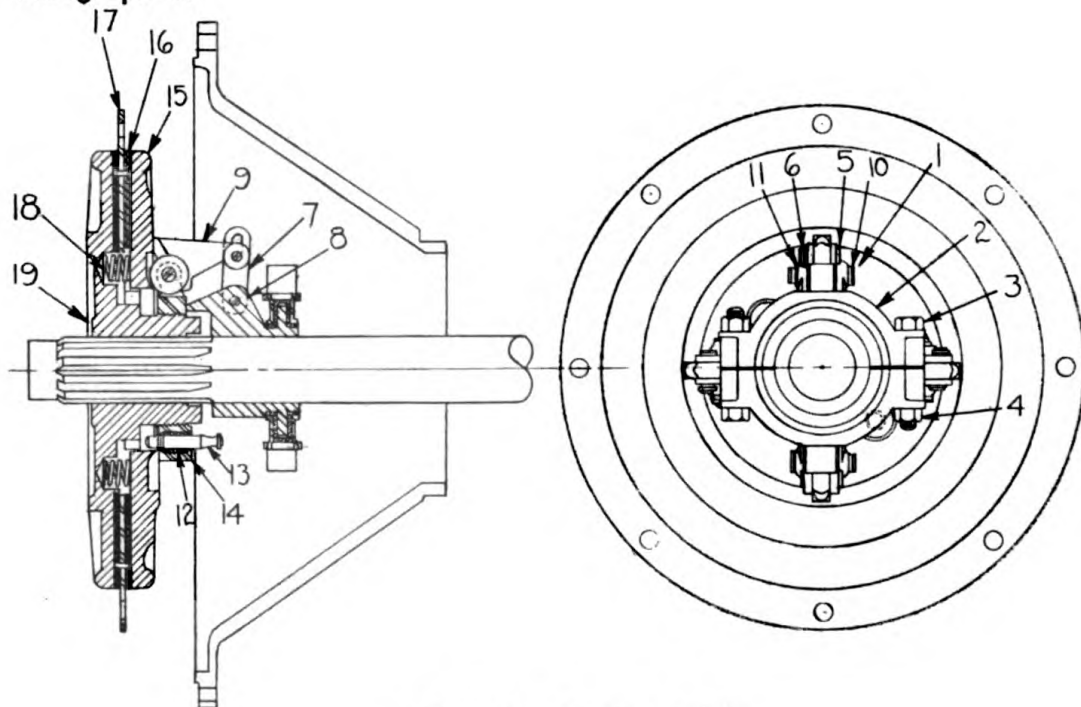

Figure 10. Master clutch.
(19) Master Clutch
This is a Twin Disc C S 110 single plate (17) figure 10 dry type clutch which controls power from the engine to the transmission.
The driving plate (17) figure 10 has friction discs (16) riveted to both sides. This plate bolts to the engine flywheel. Located inside the recessed section of the flywheel and mounted on the splined shaft is the back plate (19). This plate has a hub which extends through the driving (17) and floating plate (15). The transmission end of the hub is threaded to take the adjusting yoke assembly (14).
As the clutch handle is engaged the sliding sleeve (8) figure 10 moves towards the engine causing the lever links (7) to raise the finger levers (9). As the sleeve end of the lever links (7) pass under and beyond the center of the finger lever pins, the clutch, with a distinct snap felt in the control, engages.